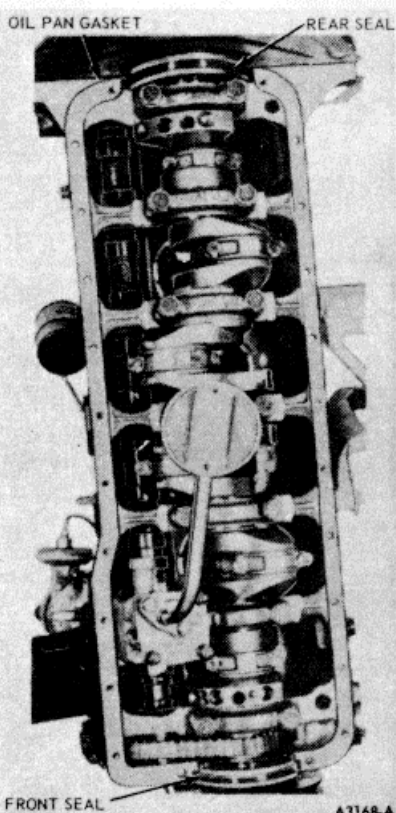

FIG. 49 200 CID Six Oil Pan Gaskets and Seals Installed
1. Clean the gasket surfaces of the block and oil pan. Be sure to clean the seal retainer grooves in the cylinder block and oil pan. The oil pan has a two-piece gasket. Coat the block surface and the oil pan gasket surface with oil-resistant sealer. Position the oil pan gaskets on the cylinder block (Figure 49).